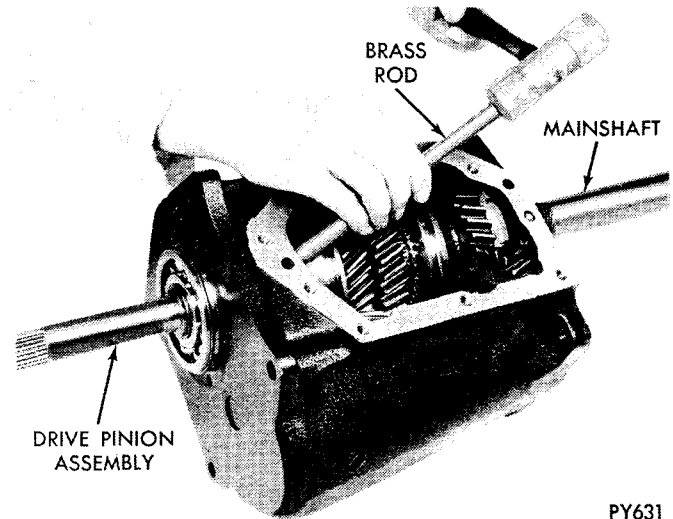

Fig. 6—Obtaining Mainshaft Pilot Clearance
- (1) Remove bolts holding drive pinion bearing retainer to front of transmission case.
- (2) Slide retainer and gasket forward off the drive pinion. Pry pinion oil seal from bearing retainer. To avoid leakage around the new seal, do not nick or scratch the bore in which the seal is pressed, or the surface on which seal bottoms.
- (3) Tap drive pinion forward carefully with a brass drift, as far as possible to provide maximum disassembly clearance for mainshaft removal (Fig. 6).